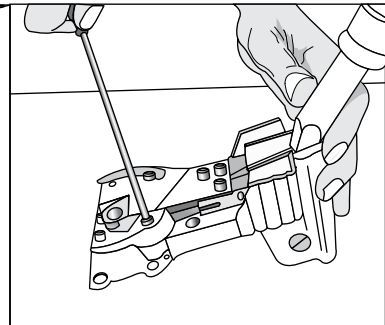

Figure 12
3. Loosen screws with 3 mm Allen wrench. (See Figure 12)